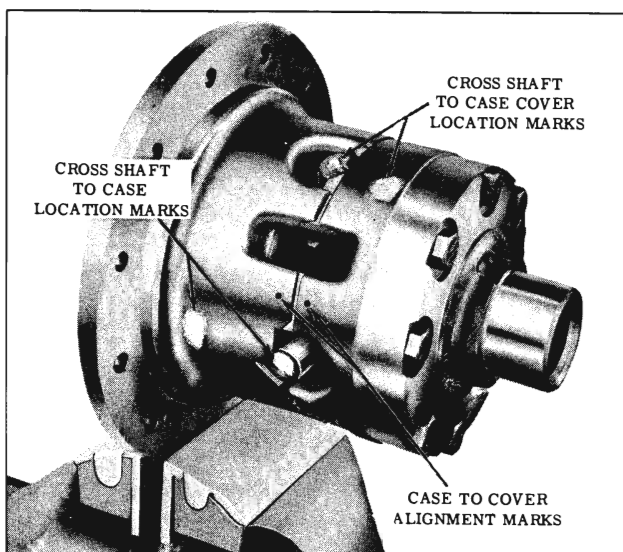

Fig. 6-42 Alignment Marks
- 3. Clamp the case assembly in a BRASS JAWED VISE by the ring gear or case flange. (Fig. 6-42)
4. Mark differential case and case cover with a center punch to provide alignment when assembling. (Fig. 6-42) If the cross shafts are to be reused, observe ends of shafts and case for daubs of paint identifying location. If they are not marked, it will be necessary to mark one end of each shaft as well as the case.